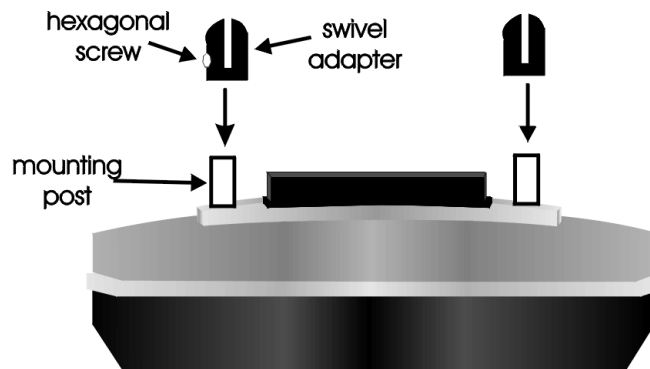

Figure: 2-5 Attaching the swivel adapters to the Noggin 250.
- 3) **Attach the Noggin:** Before the Noggin unit can be attached to the SmartCart, the 4 swivel adapters (with attached Clevis pins) must be attached to the mounting posts on the Noggin (see Figure 2-5). Set the swivel adapter down on the post. It may be necessary to loosen the Allen (hexagonal) screw before the swivel adapter will slide down into the proper position. This can be done using the 1/8" Allen (hexagonal) wrench provided. Now, tighten each screw and then loosen  $\frac{1}{4}$  turn so that the swivel adapters are firmly attached to the post but can still rotate. **DO NOT OVERTIGHTEN!**